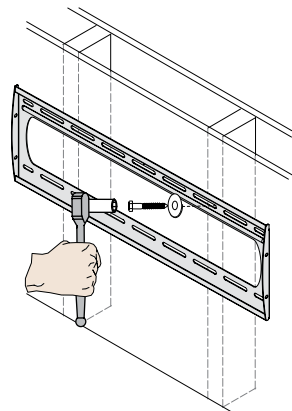

Figure 8. Inserting a Lag Bolt
9. Insert one $\frac{5}{16}$ " x 3" lag bolt and one $\frac{5}{16}$ " washer into the upper right mounting hole and tighten using a socket wrench and $\frac{1}{2}$ " socket (not included) (Figure 8).